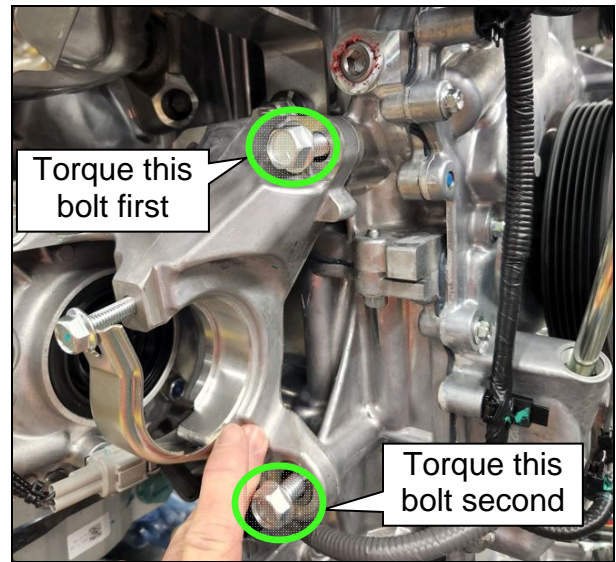

Figure 9
4. While continuing to hold the drive shaft support bearing bracket into position, torque the top drive shaft support bearing bracket to engine block bolt to specification first, and then torque the lower drive shaft support bearing bracket to engine block bolt (Figure 9).